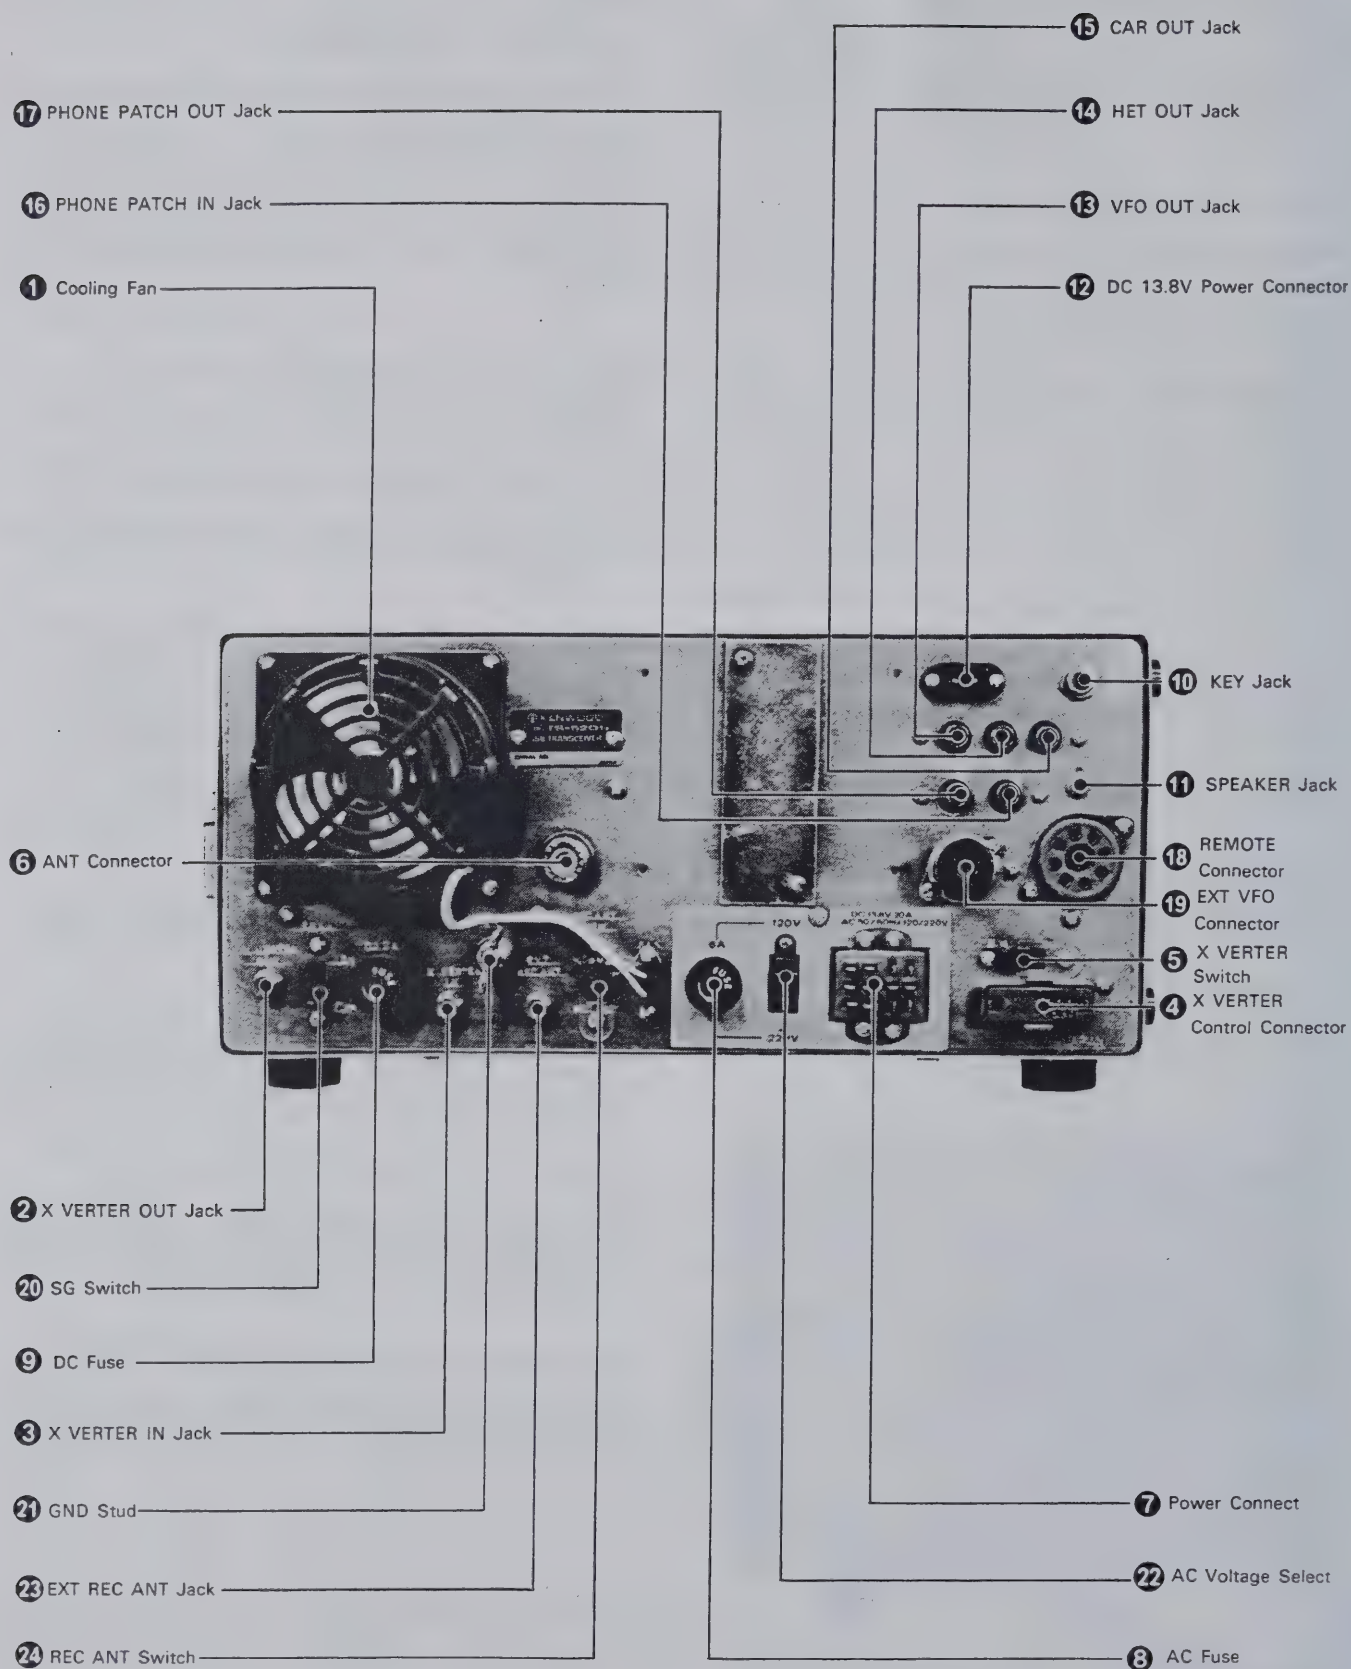

Fig. 7 Rear Panel Controls
3.3 REAR PANEL CONTROLS (See Figure 7)
■ COOLING FAN (① on Figure 7)
■ TRANSVERTER OUT JACK (② on Figure 7)
■ TRANSVERTER IN JACK (③ on Figure 7)
■ TRANSVERTER CONNECTOR (④ on Figure 7)
■ X VERTER SWITCH (⑤ on Figure 7)
■ ANTENNA CONNECTOR (⑥ on Figure 7)
■ POWER SUPPLY CONNECTOR (⑦ on Figure 7)
■ AC FUSE (③ on Figure 7)
■ DC FUSE (⑨ on Figure 7)
■ KEY JACK (⑩ on Figure 7)
■ SPEAKER JACK (⑪ on Figure 7)
■ 13.8V DC CONNECTOR (⑫ on Figure 7)
■ VFO OUT JACK (⑬ on Figure 7) HET OUT JACK (⑭ on Figure 7) CAR OUT JACK (⑮ on Figure 7)
■ PHONE PATCH IN JACK (⑯ on Figure 7)
■ PHONE PATCH OUT JACK (⑰ on Figure 7)
■ REMOTE CONNECTOR (⑱ on Figure 7)
■ EXTERNAL VFO CONNECTOR (19 on Figure 7)
■ SG SWITCH (20 on Figure 7)
■ GND (Ground) LUG (21 on Figure 7)
■ AC VOLTAGE SELECT SWITCH (22 on Figure 7)
■ EXTERNAL RECEIVER ANTENNA JACK (23 on Figure 7)
■ RECEIVER ANTENNA SWITCH (24 on Figure 7)